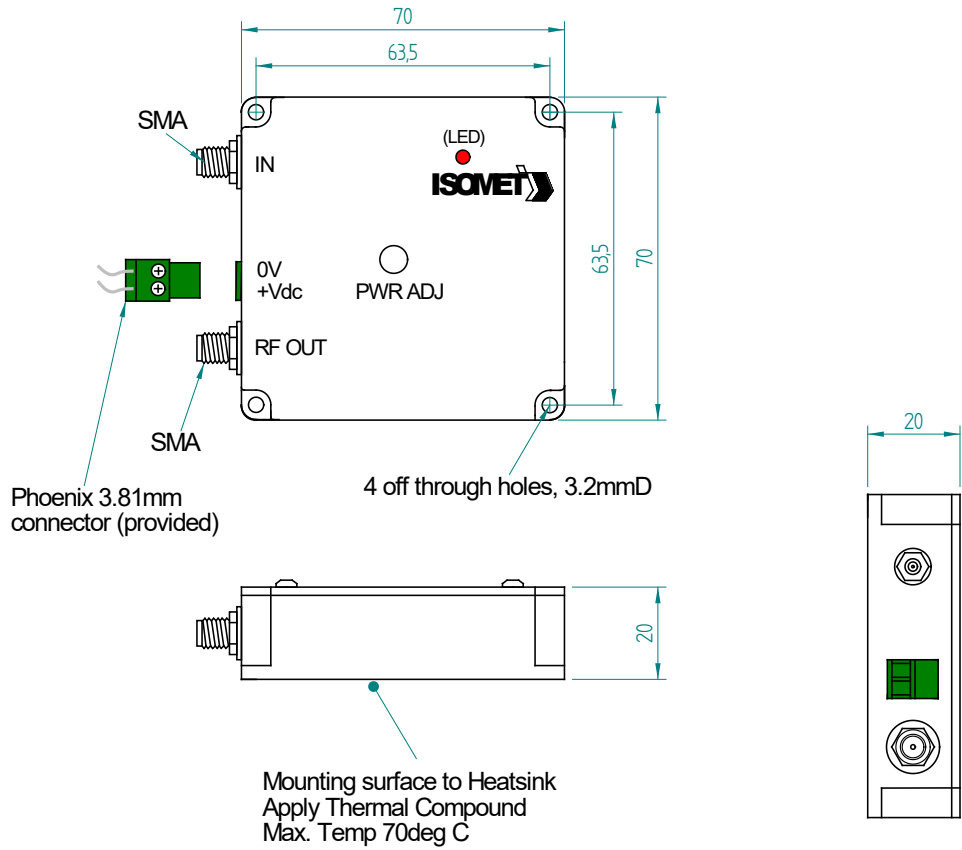

Figure 1: Driver Installation
3.1 Using M3 screws, install the Amplifier on a heat sink through the 3.2mm ID holes identified in figure 1. Use heat conducting compound between the Amplifier and mounting face and the heat sink.